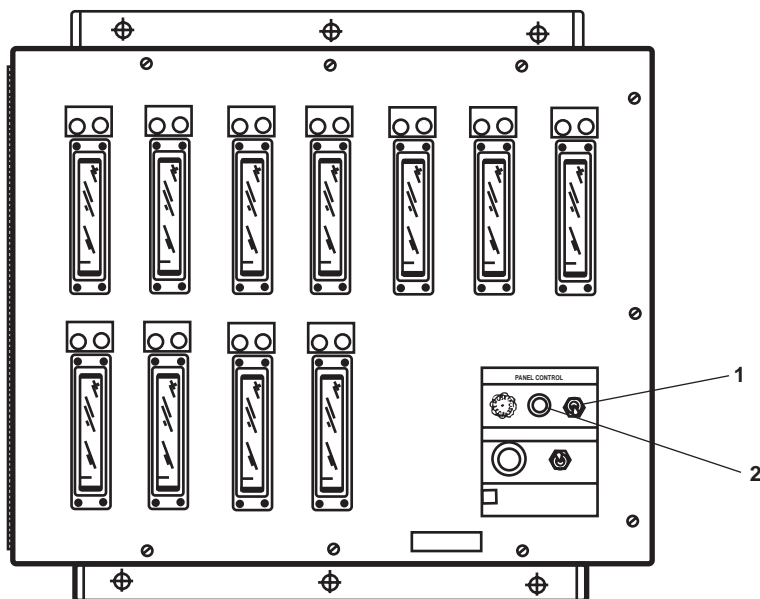

Figure 1. 11 Channel Master TLI Panel
1. On the 11 channel master Tank Level Indicator (TLI) panel in the EOS, set the ON-OFF switch (figure 1, item 1) to OFF.
3. Verify that the POWER indicator for each TLI panel (figures 1 & 2, item 2) goes out.